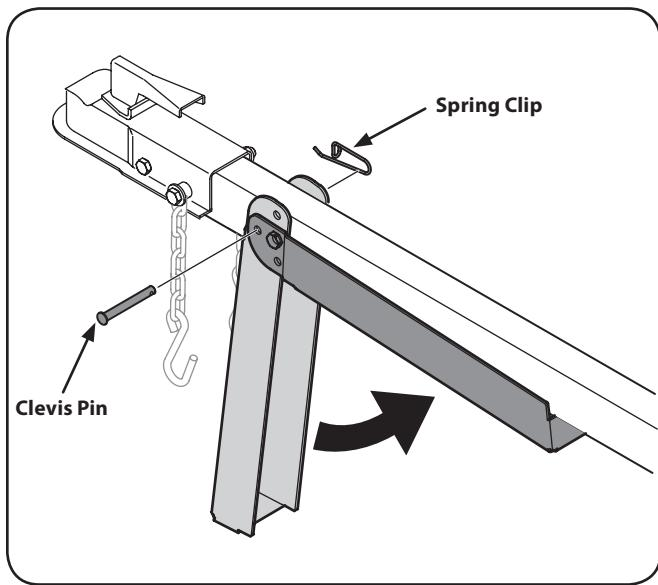

Figure 6-5
- Support the tongue and pivot the jack stand up against the tongue. See Figure 6-5.
- Secure with the spring clip and clevis pin previously removed in Step 2. See Figure 6-5.